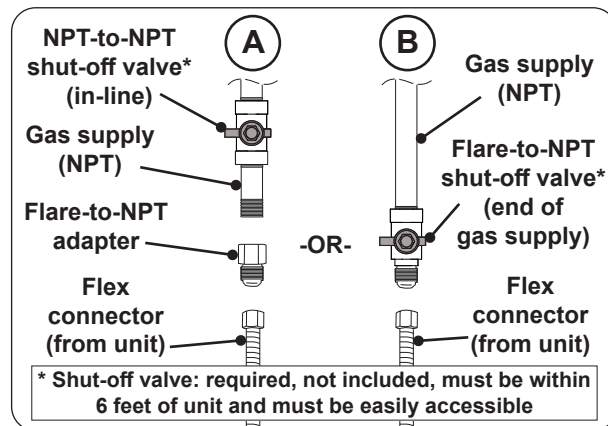

Fig. 25-1 Connecting to a gas line
- Install the supplied flare-to-NPT adapter to the gas supply (NPT) using a pipe joint compound resistant to all gasses (see Fig. 25-1, A). Tighten securely.
- Connect the flex connector to the adapter (see Fig. 25-1, A). Tighten securely.
- Connect the flex connector to the shut-off valve (flare) (see Fig. 25-1, B). Tighten securely.